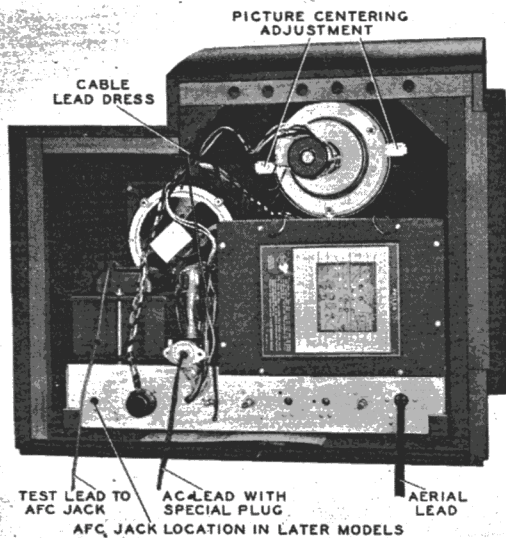

FIGURE 5. REAR VIEW, SHOWING TEST AND AERIAL CONNECTIONS AND REAR CONTROLS
10. Make certain that the speaker cable, deflection-yoke cable, picture-tube cable and high-voltage-anode connections are properly made, and that the cables are dressed as shown in figure 5.
25. Connect the speaker-cable, deflection-yoke cable, picture-tube cable, and high-voltage-anode-cable connectors to their receptacles, and dress the cable leads as shown in figure 5.
8. Loosen the two hex-head nuts on the centering bar, on the deflection-yoke assembly, and adjust the position of the bar to obtain perfect vertical and horizontal centering of the picture. See figures 5